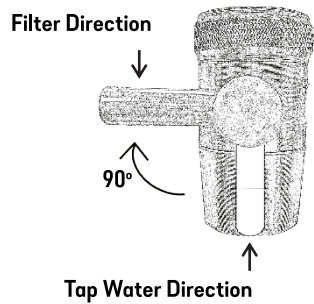

Fig.2
2. Rotate the 2-Way Switch turning toward the Filter Direction 90°. **(Fig. 2)**